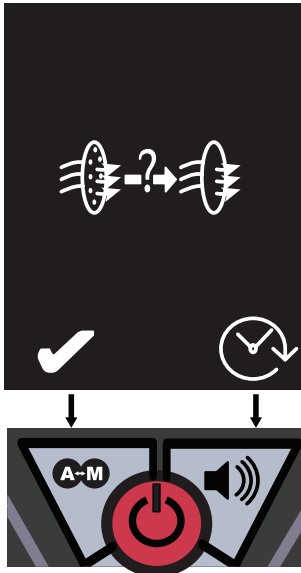

Fig. 15: Filter change confirmation
- ⇒ *The Filter change confirmation screen is displayed (see Fig. 15).*